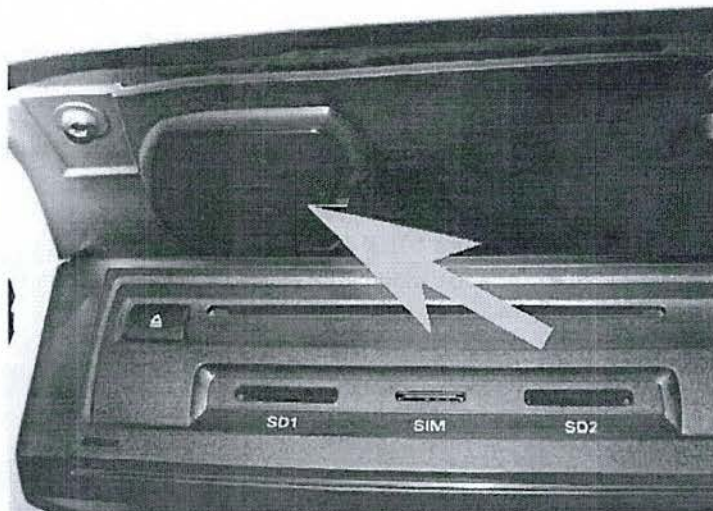

Figure 1
- Locate the key reader, which is in the glovebox, and remove the key reader plastic cover (Figure 1)